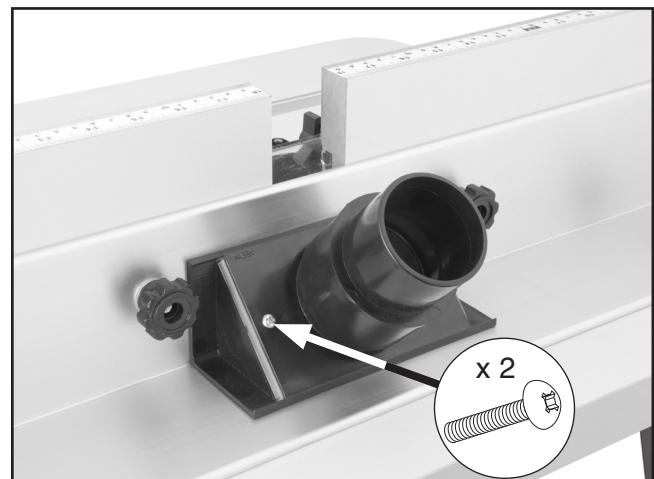

Figure 9. Dust port assembly attached to the fence support.
10. Slide the dust port onto the dust port housing, then attach the assembly to rear of the fence support with the (2) M5-8 x 55 Phillips head screws, as shown in **Figure 9**.